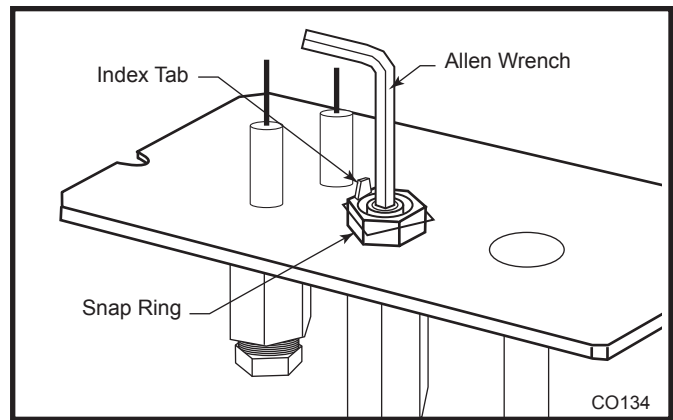

Fig. 53 Remove pilot orifice.
2. Remove pilot orifice with allen wrench. (Fig. 53)